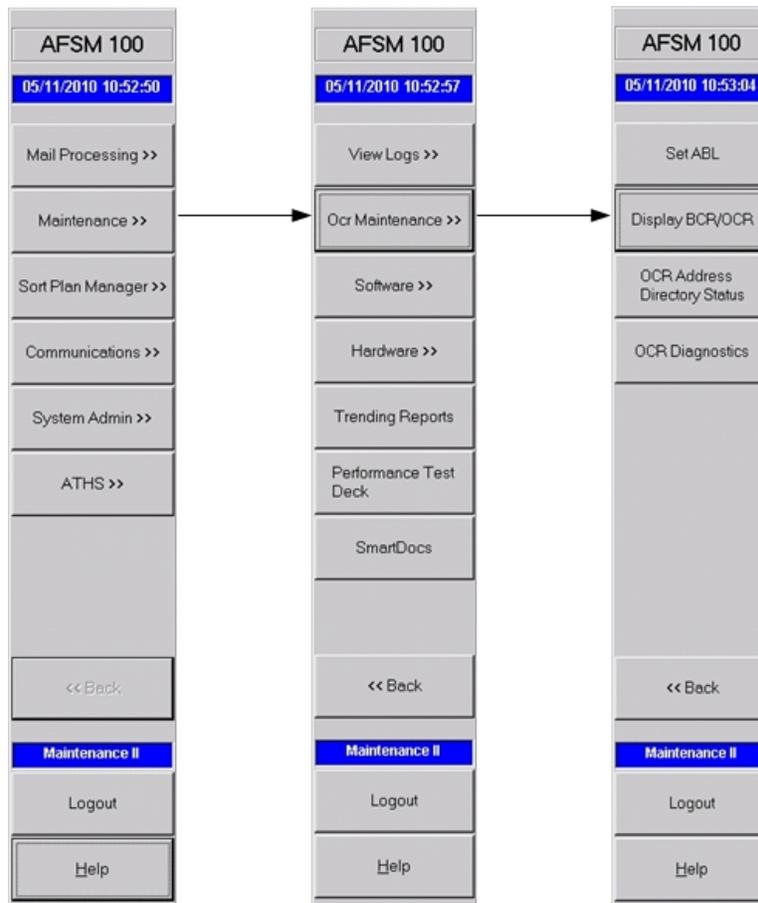

Figure 2-7. Display BCR/OCR
2. From the main button bar, click on **Maintenance**, then **Ocr Maintenance**, then **Display BCR/OCR**. See Figure 2-7.